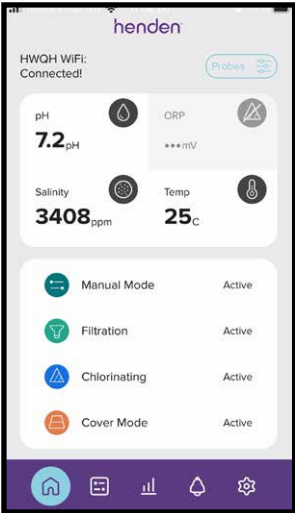

Figure 9.81
- Once back at the dashboard “Cover Mode Active” will now appear (refer Figure 9.81).